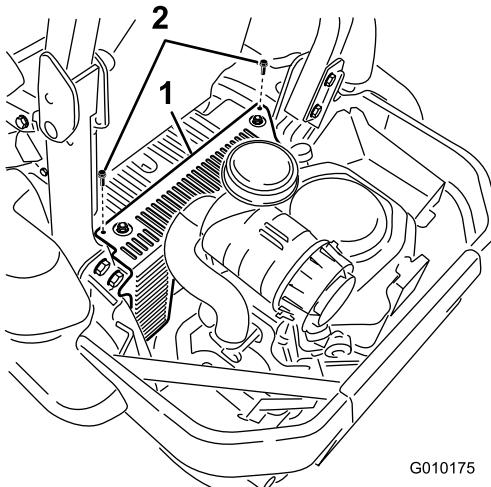

Figure 10
7. Install the hydraulic unit shroud to the machine (Figure 10).